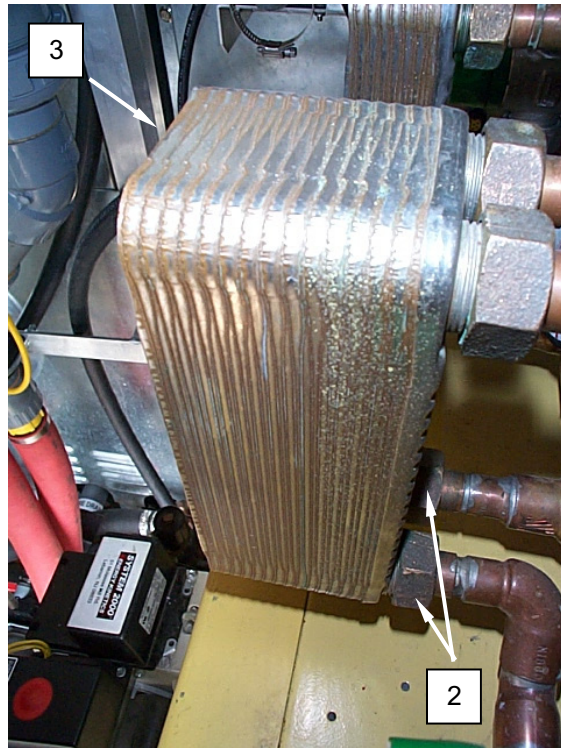

Figure 1. Replace the Heat Exchanger.
3. Remove screws retaining guard (**Figure 1, Item 1**) and remove guard.
4. Unscrew unions (**Figure 1, Item 2**) and remove heat exchanger (**Figure 1, Item 3**).
5. Desolder union halves from heat exchanger (**Figure 1, Item 3**).
6. Solder union halves to heat exchanger (**Figure 1, Item 3**).
7. Install heat exchanger (**Figure 1, Item 3**) and secure with unions (**Figure 1, Item 2**).
8. Install guard (**Figure 1, Item 1**) and retain with screws.